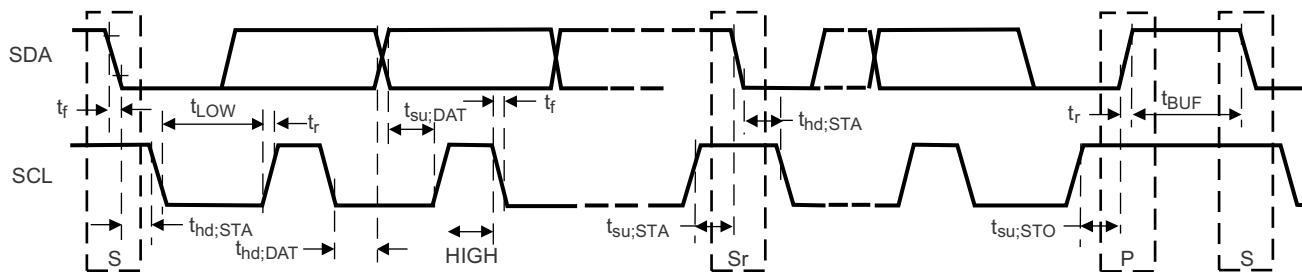
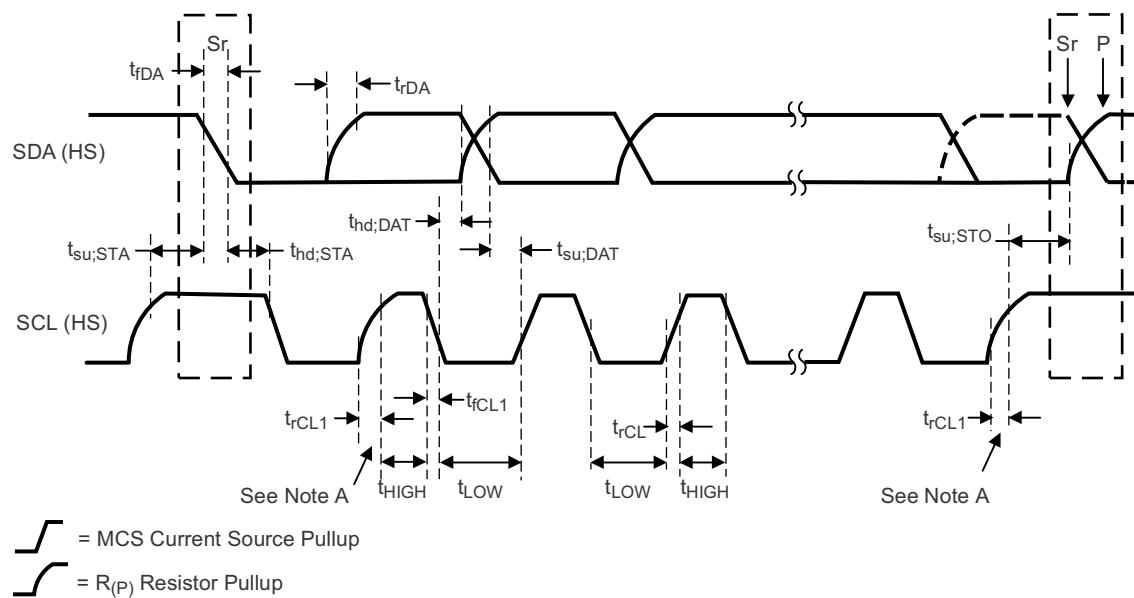

Figure 5-1. Serial Interface Timing Diagram for F/S Mode
Figure 5-2. Serial Interface Timing Diagram For HS Mode
Over operating free-air temperature range⁽¹⁾⁽²⁾⁽³⁾⁽⁴⁾. For the timing diagram for fast and standard (F/S) modes, see Figure 5-1. For the timing diagram for high-speed (HS) mode, see Figure 5-2.